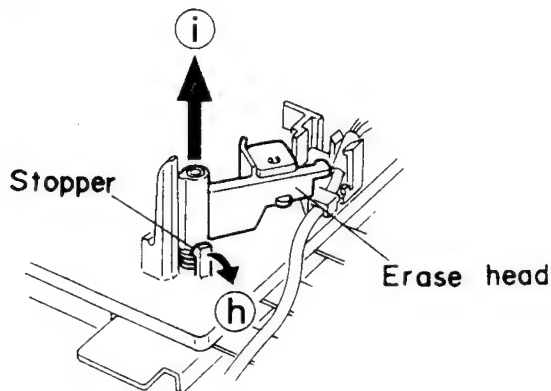

Fig. 5-22
### ■ Removing the Record/Playback head & Erase head (See Figs. 5-22, 23)
14. Pull out all of the three stages of CD tray assembly in the arrow direction (E) until these stages stop (See Fig. 5-22).